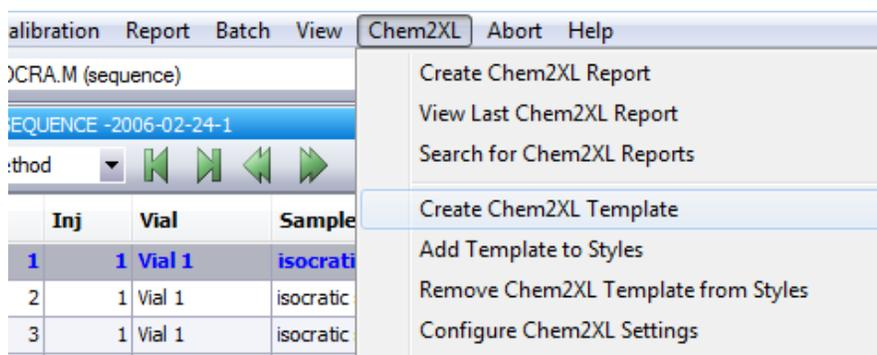

Figure 3.2 Create Chem2XL Template pull down menu
3. Select from the Chem2XL menu Create Chem2XL Template (see Figure 3.2).